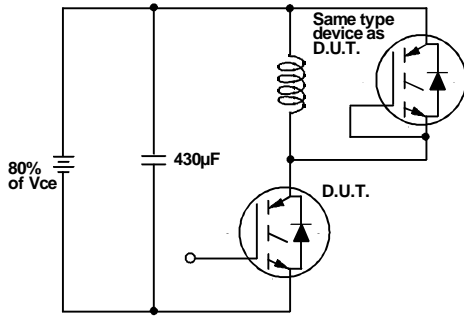

Fig. 18a - Test Circuit for Measurement of I_{LM} , E_{on} , $E_{off}(\text{diode})$, t_{rr} , Q_{rr} , I_{rr} , $t_{d(on)}$, t_r , $t_{d(off)}$, t_f
- Fig. 18e - Macro Waveforms for Test Circuit of Fig. 18a